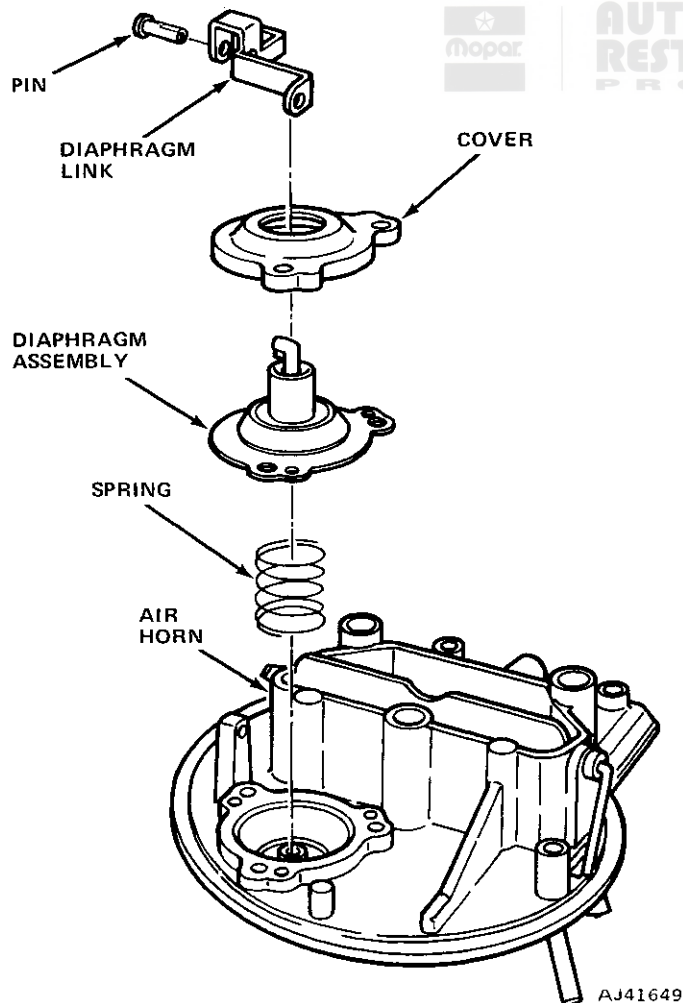

Fig. 1J-47 Choke Modulator Assembly
- (1) Remove air cleaner anchor screw.
- (2) Remove automatic choke rod retainer from thermostatic choke shaft lever.
- (3) Remove air horn attaching screws, lockwashers and carburetor identification tag. Remove air horn and air horn gasket.
- (4) Remove choke rod by loosening screw that secures choke shaft lever to choke shaft. Remove rod and plastic dust seal from air horn.
- (5) Remove choke modulator assembly (fig. 1J-47).
- (6) Remove fast idle cam retainer (fig. 1J-48).
- (7) Remove choke shield.
- (8) Remove thermostatic choke spring housing retaining screws and clamp, housing and gasket.